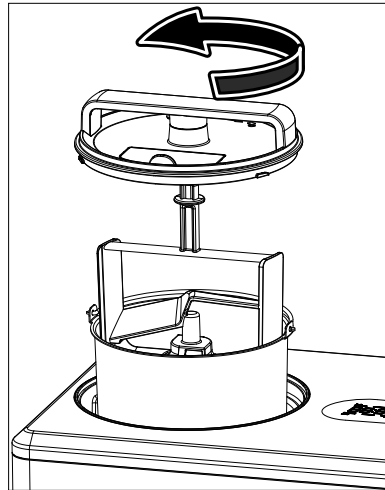

Fig. 4
- ▶ To add additional food, such as nuts, open the refill opening in the lid (see **Fig. 4**). The appliance does not stop cooling, the stirrer continues to rotate and ice cream preparation is continued.
- ▶ Close the refill opening (12) again after filling.